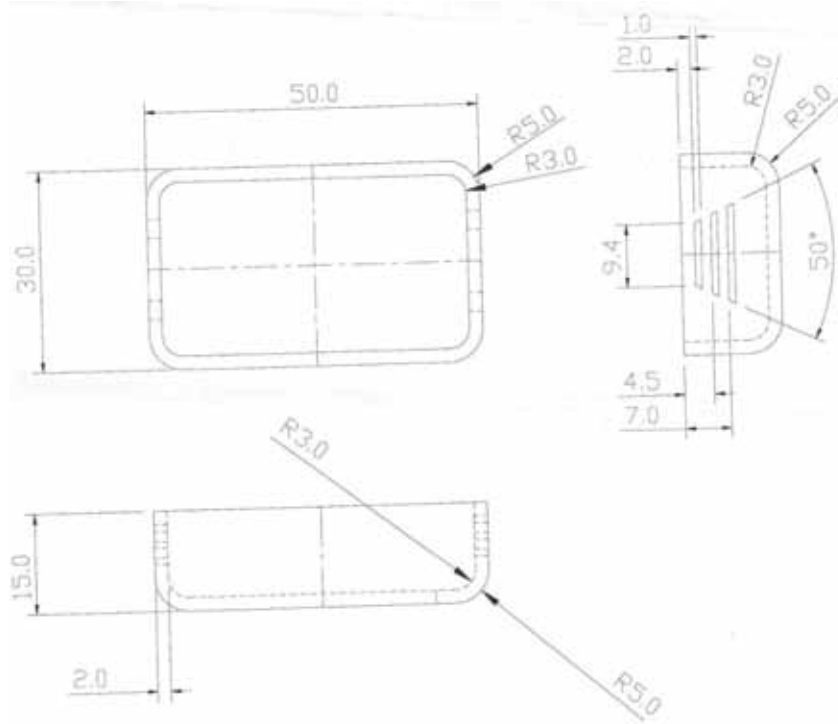

Fig. 1
Q. 7 Design a 2 cavity mold for the component shown in figure 1. Draw at least 2 views with one sectional view to bring out the details of the feed, cooling and ejection system. Illustrate the relevant design calculations